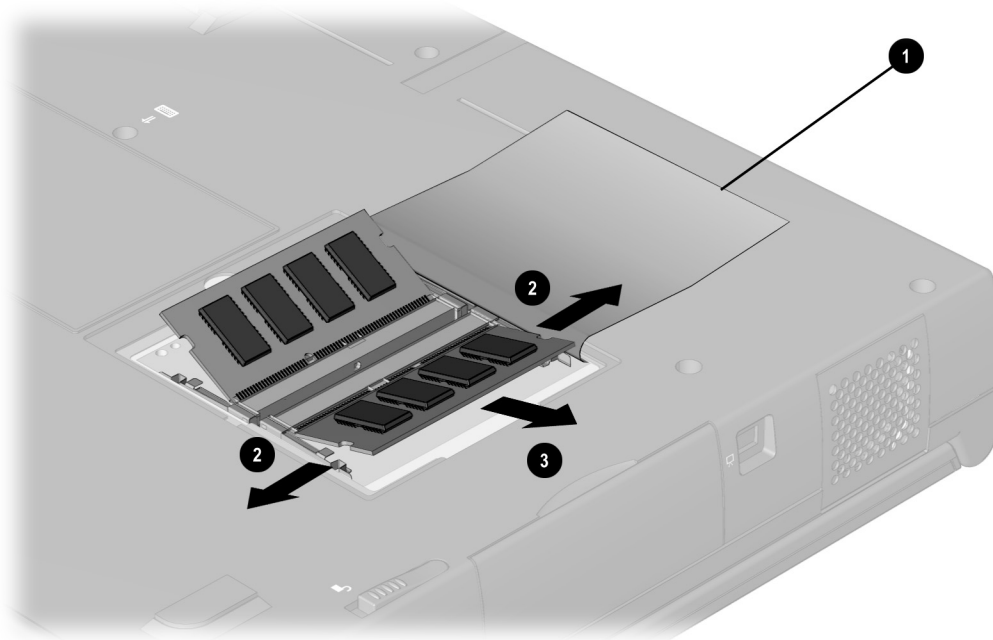

Figure 5-25. *Removing a Memory Expansion Board*
1. Lift and hold back the memory insulator ❶. The insulator is not removable (Figure 5-25).
2. Spread the retaining tabs apart ❷. The memory expansion board tilts upward.
3. Lift the edge of the memory expansion board and slide it gently out of the memory expansion slot at a 45-degree angle ❸.